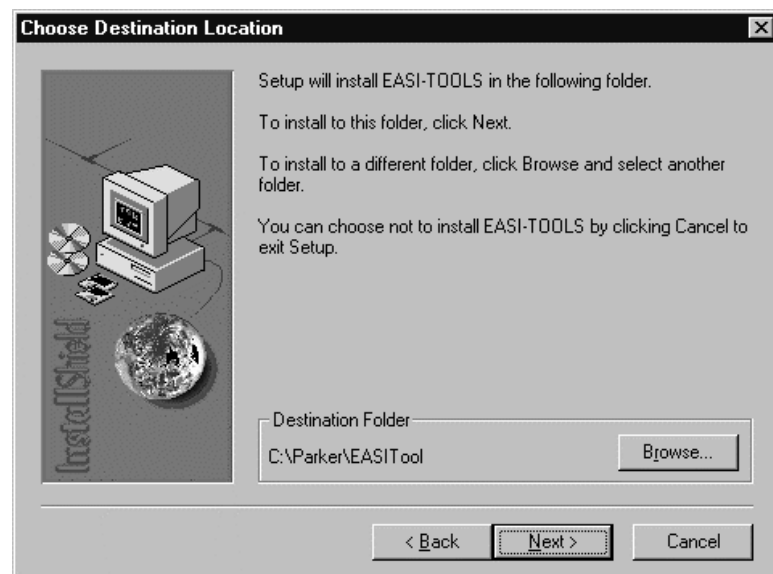

Figure 5-1. Choosing Where to Install EASI-TOOLS
5. Selecting NEXT> displays a 'Choose Destination Location' dialog/selection box which provides the option of installing EASI-TOOLS in the directory of your choice. The default directory is **c:\Parker\EASITool**, other buttons are described within the dialog box, see Figure 5-1.